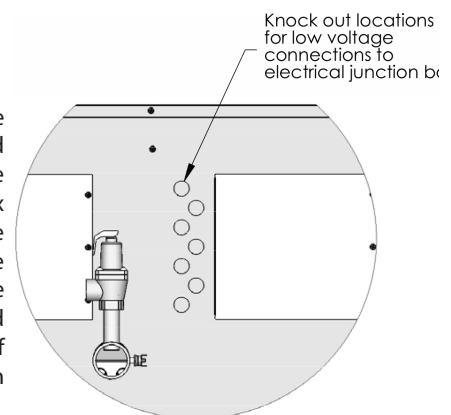

Figure 25 - Knockout Locations
1. All low voltage cables should enter the electrical junction box through the provided knock out holes as shown in Figure 25.